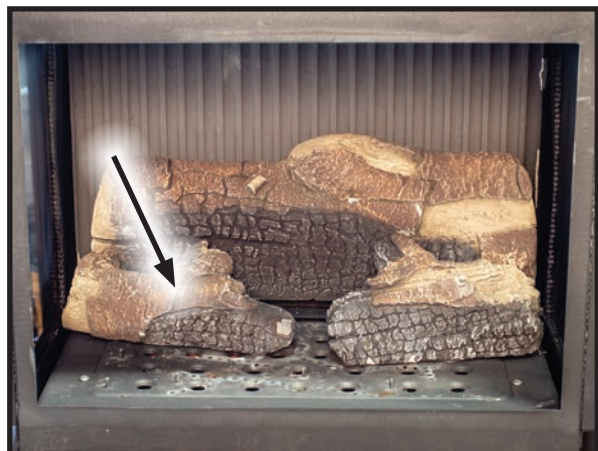

Figure 53. Log #5 & #6 Placement
2. Place Log #5 on the left and Log #6 on the right in front of Log #8. Line up the bottom holes with the pins on the burner pan (Figure 53).